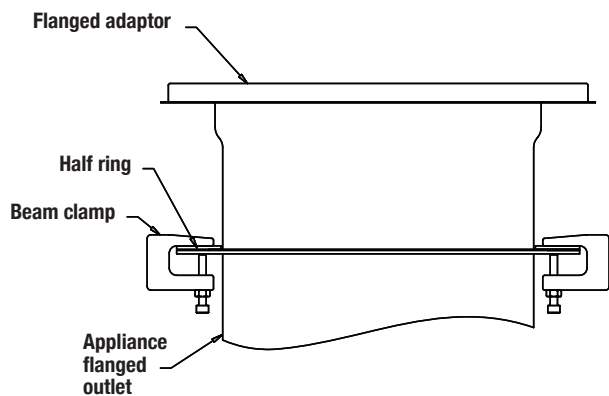

Figure 43 - Flanged adaptor (FHA illustrated)
2. The adaptor is designed to sandwich an 1/2 inch flange between two half ring and the appliance flanged outlet. The Flange Adaptor comes with beam clamps to clamp the FHA to the appliance. See **Figure 43**.